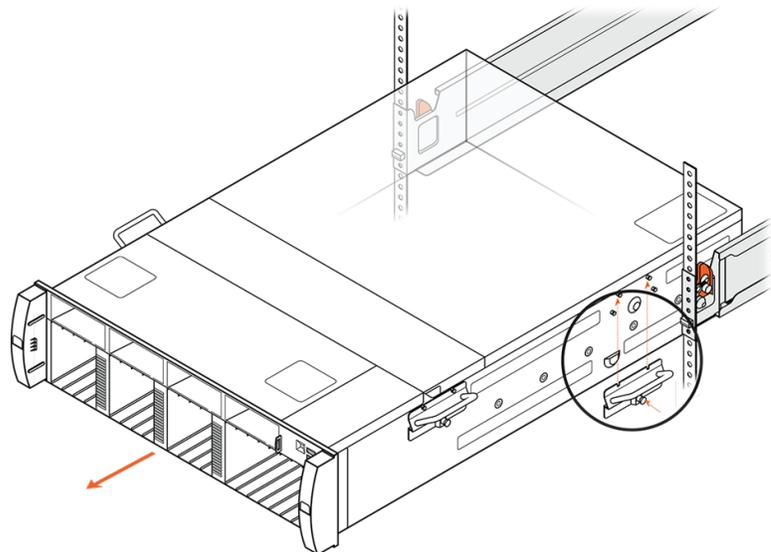

Figure 11-12. Sliding the Chassis on the Rails and Attaching the Second Pair of Lift Handles
3. Grip the handles and slide the chassis along the rails until the second set of chassis handle standoffs are exposed. See Figure 11-12.